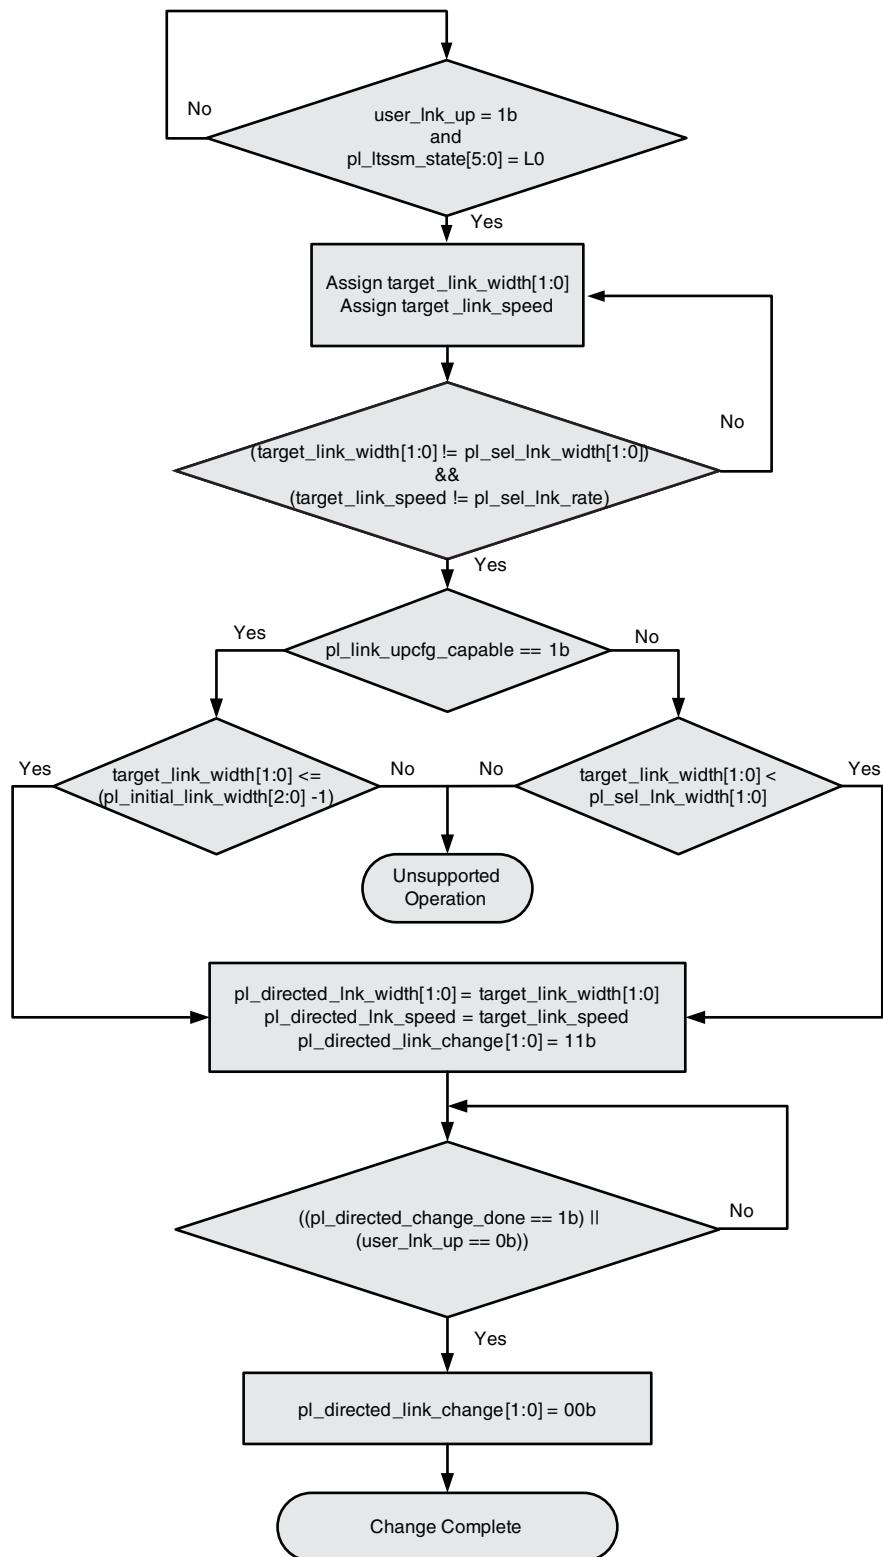

Figure 3-59: Directed Link Width and Speed Change
**Figure 3-59** shows the directed link width and speed change process that must be implemented by the user application. Here `target_link_width[1:0]` is the application-driven new link width request, and `target_link_speed` is the application-driven new link speed request.